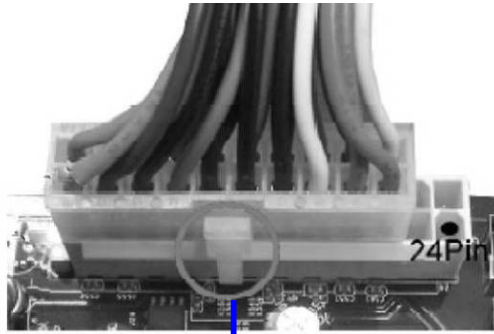

Figure 1: 20-pin power plug
- ** If you are using a 20-pin power plug, please refer to Figure1 for power supply connection. Power plug form power supply and power connectors from motherboard both adopt key design to avoid mistake installation. You can insert the power plug into the connector with ease only in the right direction. If the direction is wrong it is hard to fit in and if you make the connection by force it is possible.